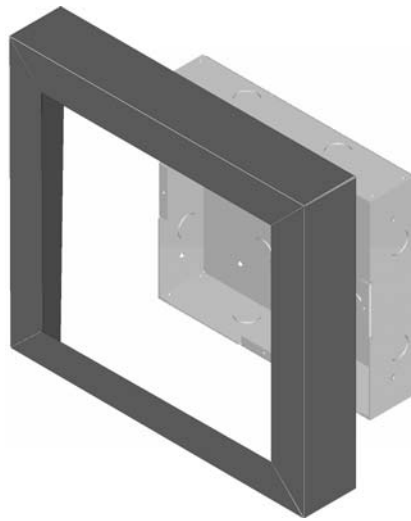

Figure 4-16 Installing Trim Ring
4. Place the trim ring over the backbox as shown in Figure 4-16.